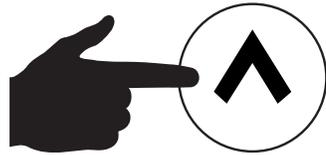

Figure 64. Page Up Button
13. Press the **Page Up** button (Figure 64) to scroll to screen 5 of 7.